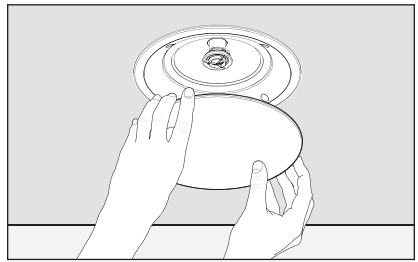

Fig. 5e
11. Gently press the grill into place (Figs. 5e & 6e). Apply the MartinLogan logo badge if desired.